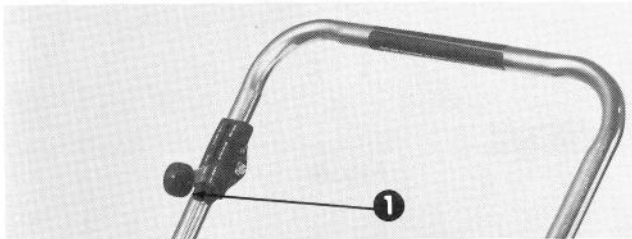

Figure 13
- Move drive control into DISENGAGE **detent** (self-propelled model) and throttle control forward to START position (Fig. 13).